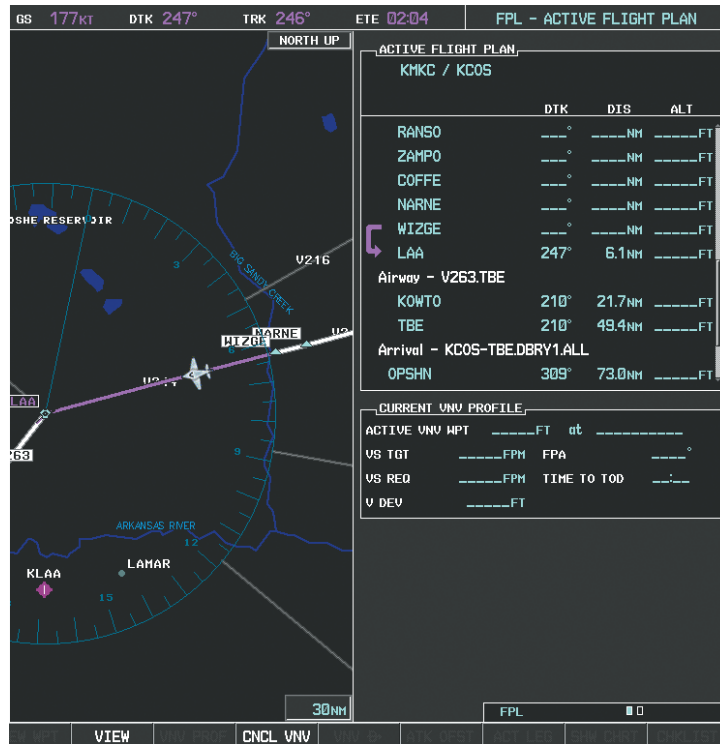

Figure 5-118 WIZGE to LAA Leg Active
10) At Lamar VOR (LAA) V263 is intercepted. See Figure 5-118.